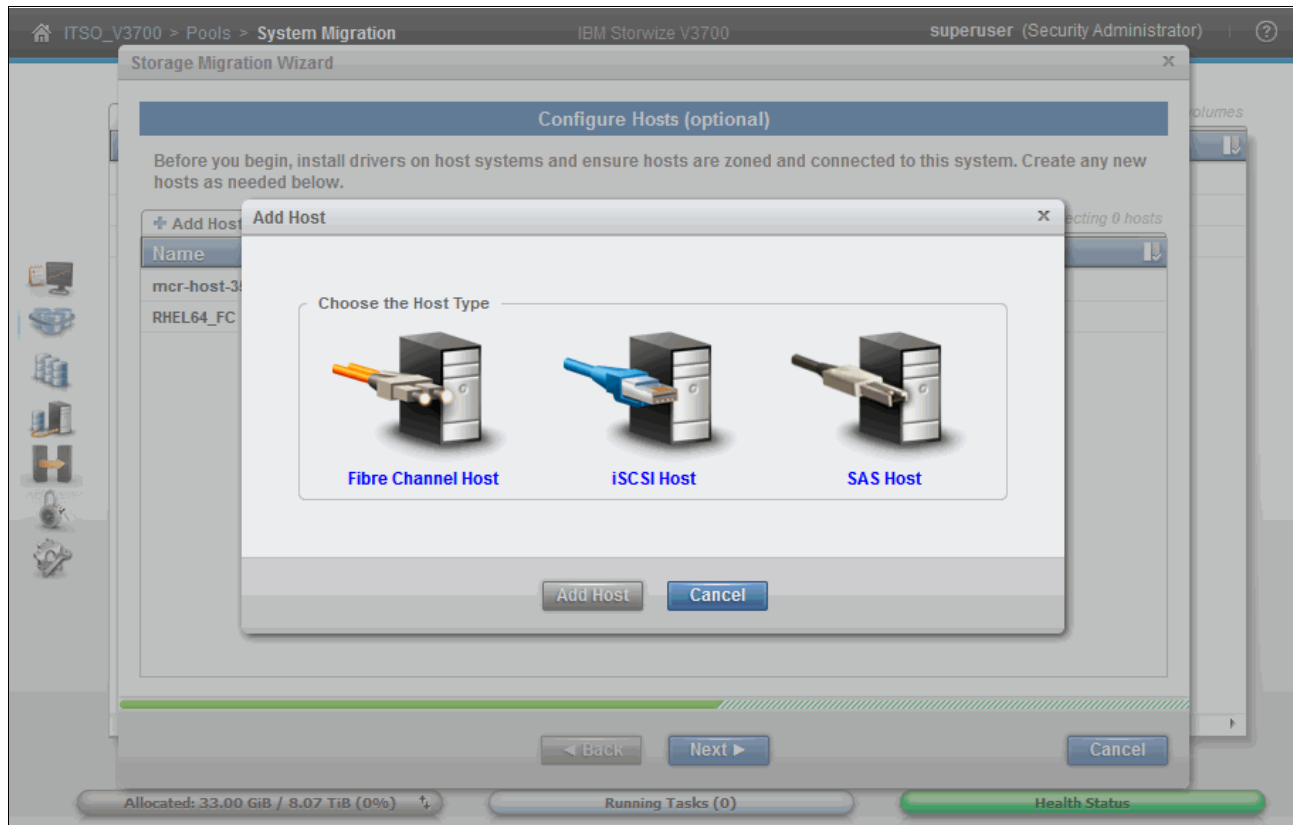

Figure 6-46 Add host connection type
2. In this case, create the host by selecting the **Add Host** option. This begins the process of defining a host, with the choice of connectivity shown in Figure 6-46.